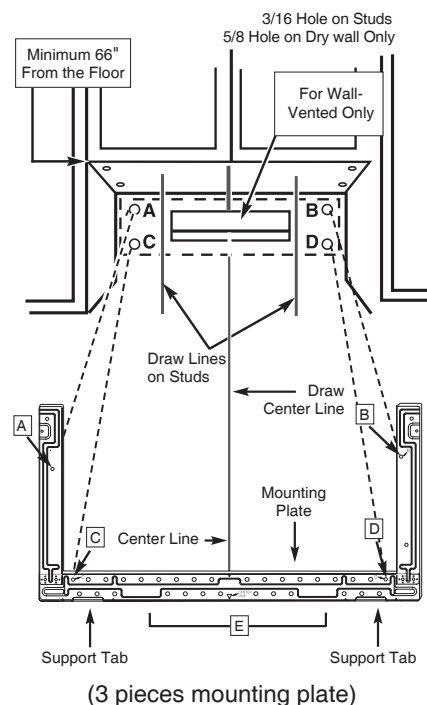
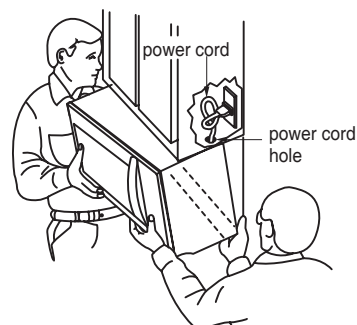

Figure 28
Figure 31
1. Carefully lift microwave oven and hang it on support tabs (See Figure 28) at the bottom of the mounting plate. Reaching through upper cabinet, thread power supply cord through the power supply cord hole in the bottom of the upper cabinet. See Figure 31.